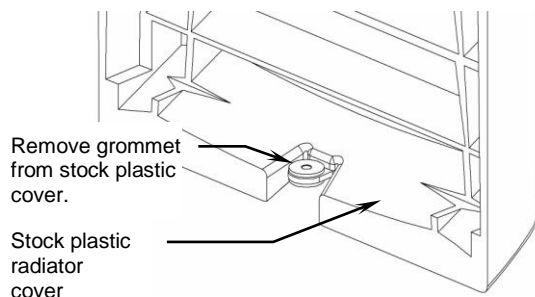

FIGURE 1
1. Remove the (2) M6 buttonhead screws securing the stock radiator cover, these will not be reused.
2. Remove the rubber grommet from the plastic tab at the bottom of the stock plastic radiator cover, see Figure 1.